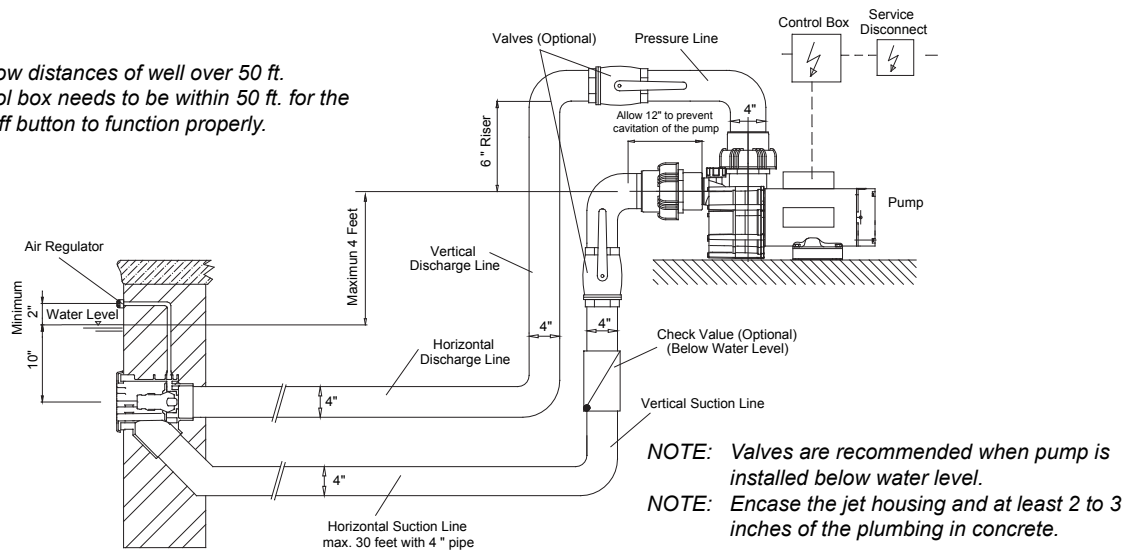

Figure 3
**CAUTION:** The center of the housing (the nozzle) should be 10" BELOW water level for maximum efficiency. The air regulator should be approximately 4" (or minimum 2") ABOVE the water level. (See Figure 3)
**CAUTION:** When connecting the pressure line into the pressure connection on top of the 4 HP pump Model 21-80, first install a 6" (15 cm) riser (See Figure 3) before installing an elbow and leading the pressure line downward to the pressure connection at the jet housing. This will guarantee trouble-free priming of the pump. (Not required for the 3.5 HP Model 72)
**CAUTION:** When using 6" pipe the suction line should run to a point directly under the pump and up to the water line in 6" and finish vertical and elbow into the pump in 4" to minimize priming time. (See Figure 3)